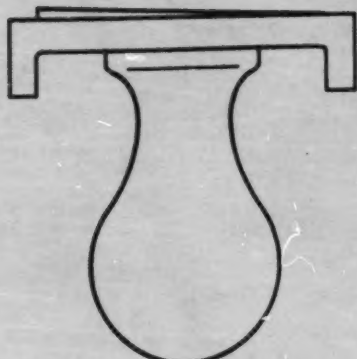

Figure 5-8 Blade is up on the left side
2. Move the lateral adjustment lever to the right or to the left until the cutting edge of the blade is even with the bottom of the plane (Figure 5-6). Figure 5-7 shows a blade which is adjusted properly. In Figures 5-8 and 5-9, the cutting edge is not even with the bottom of the plane.